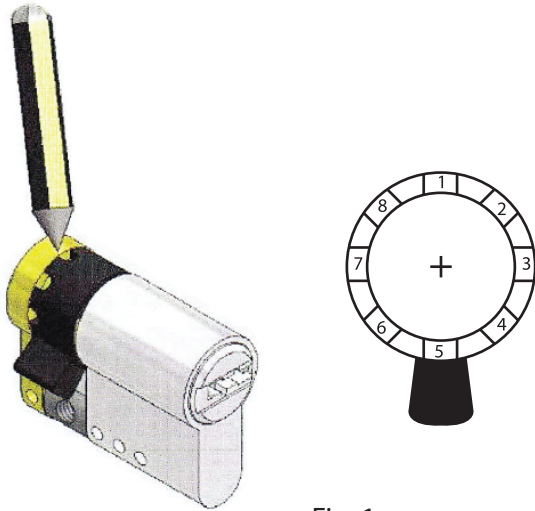

Fig. 1
- Push the tip of a pencil into the pin and rotate the CAM until it is lined up with the lower part of the cylinder (see fig.1.) The pin will automatically stop, locking the CAM into its new position.